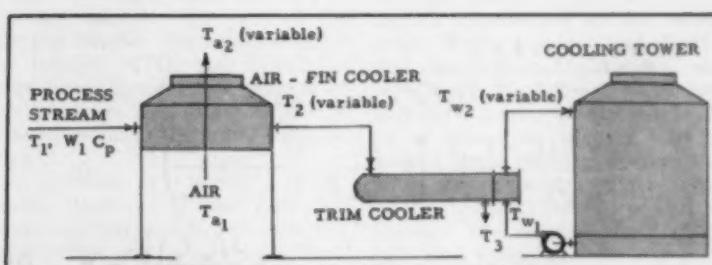

Figure 1. Trim cooler loop.
A typical cooling loop is shown in Fig. 1. The cooling water source is considered constant and the cost of the water is taken to reflect the cost of providing the water. In this case it is not necessary to consider separately how the water is provided. Kern (1) has indicated that the air fin cooler, operating at the air dry bulb, will not be economically desirable for producing a trim temperature which approaches the air temperature very closely. For this reason the derivation can be simplified by employing arithmetic mean temperature differences where applicable. The following assumptions are employed: